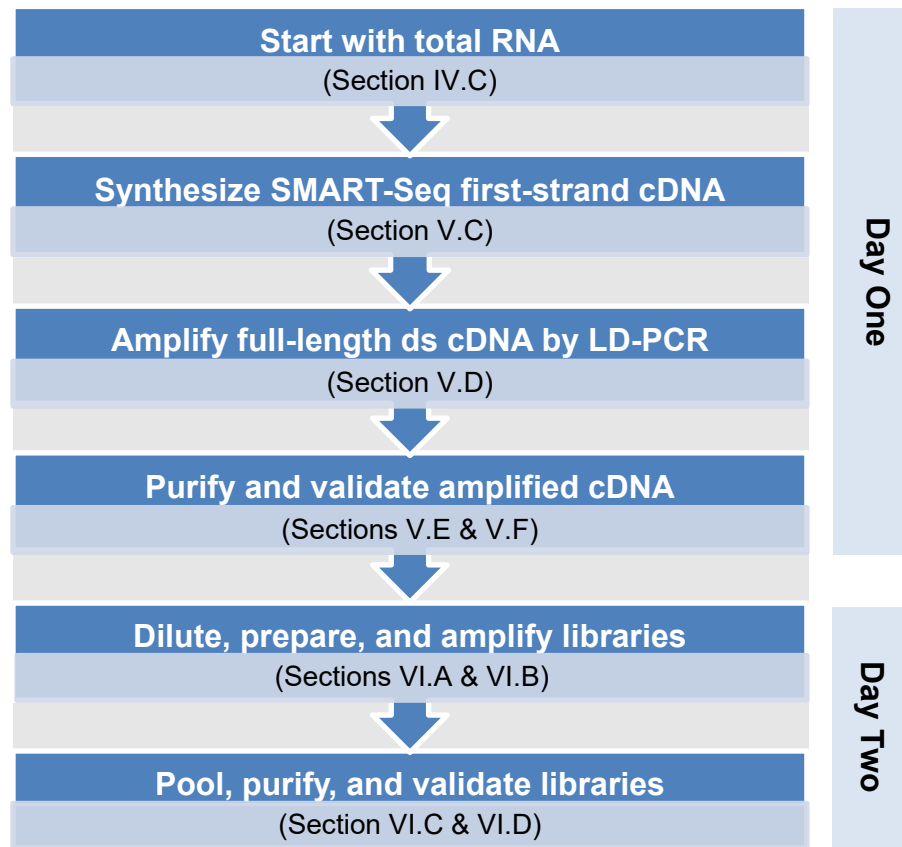

Figure 1. SMART-Seq mRNA LP protocol overview.
SMART-Seq mRNA LP (Cat. Nos. 634768, 634769 & 634771) can be used to generate high-quality sequencing libraries for the Singular Genomics (SG) G4 platform directly from 1–1,000 intact cells or 10 pg–100 ng of total RNA, in a convenient input volume of 1–10 μ l. The cDNA synthesis protocol can be completed in five hours, and the entire library construction protocol can be completed within two days (Figure 1).